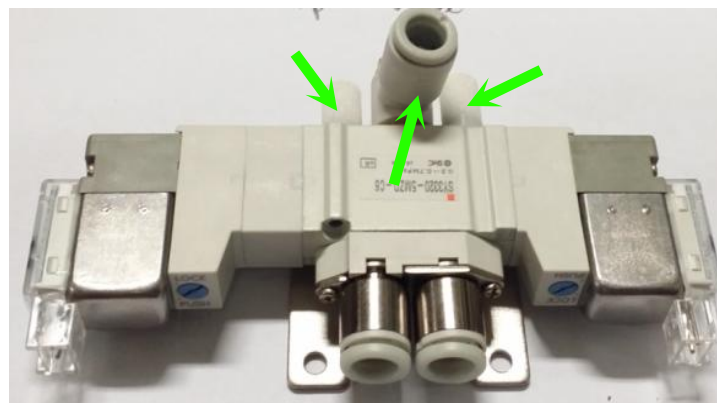

Figure 7 S2EX Clamper Controller Kit
10. Assemble Fitting and Silencer at S2 EX Clamper Controller Kit. May refer to below Figure 7